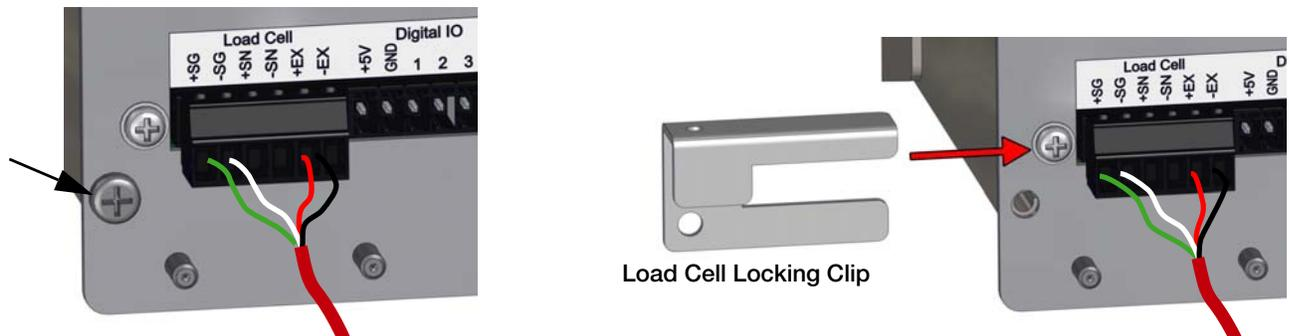

Figure 2-21. Remove Existing Screws
1. Remove the left bottom screw from the backplate as shown in Figure 2-21.